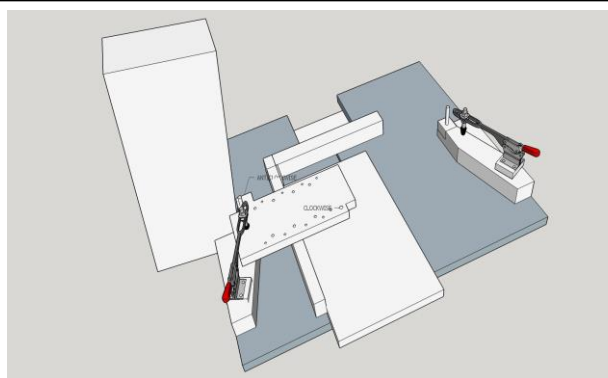

Figure 1: LHS Anti-clockwise Pins
- e. Slide the blade out, adjust the fence to the next pair of holes and clamp - see figure 1.